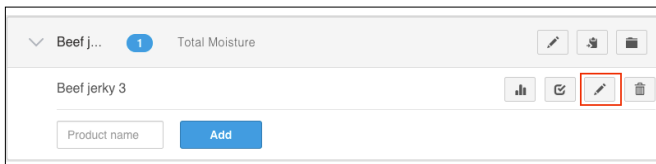

Figure 83 Product group
9. Select the Product group containing the product to be offset (Figure 83).
10. Click the edit icon next to the product to be offset (Figure 83).